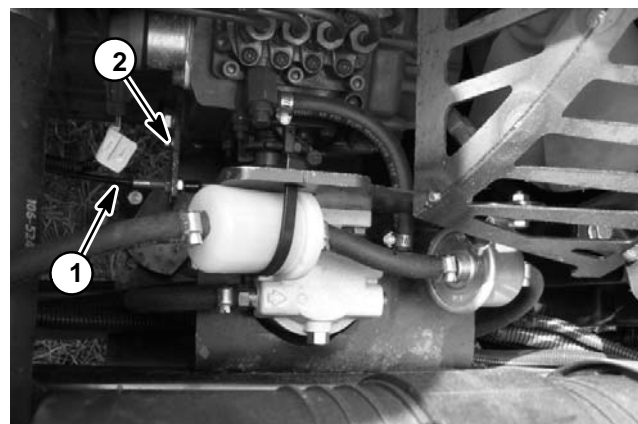
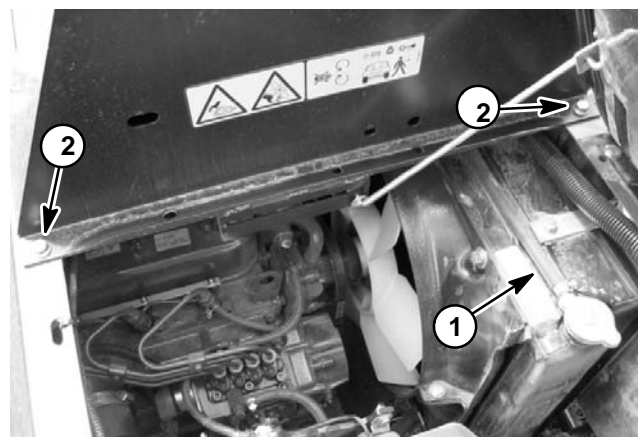

Figure 8
Figure 9
4. Loosen hose clamp that secures overflow hose to radiator flange (Fig. 9). Slide overflow hose from radiator flange and position hose away from radiator.
5. Remove six (6) cap screws (items 5 and 6), lock washers and flat washers that secure top and bottom of radiator shroud to radiator.
6. Disconnect throttle cable from engine (Fig. 8).
7. Remove fasteners that secure spray control console to seat box assembly (Fig. 9). Carefully pivot seats and control console forward to allow radiator access. Take care not to damage the wire harness or throttle cable.
8. Remove four (4) cap screws (item 19), lock washers and flat washers that secure fan shroud to radiator.
9. Remove two (2) cap screws (item 22), flat washers and flange nuts that attach fan shrouds.
11. Remove two (2) flange nuts (item 26) that secure the isomounts on the bottom of the radiator to the machine frame.
3. Carefully lower radiator to the machine frame. Secure isomounts on the bottom of the radiator to the machine frame with two (2) flange nuts.
4. Position upper fan shroud to radiator. Attach fan shrouds with cap screws (item 22), flat washers and flange nuts.
5. Secure radiator shrouds to radiator with four (4) cap screws (item 19), lock washers and flat washers. Make sure that clearance exists between radiator shrouds and fan at all points before tightening fasteners.
8. Reconnect throttle cable to engine (Fig. 8).
9. Secure radiator shroud to radiator with six (6) cap screws (items 5 and 6), lock washers and flat washers.
10. Place overflow hose to radiator flange and secure with hose clamp (Fig. 9).